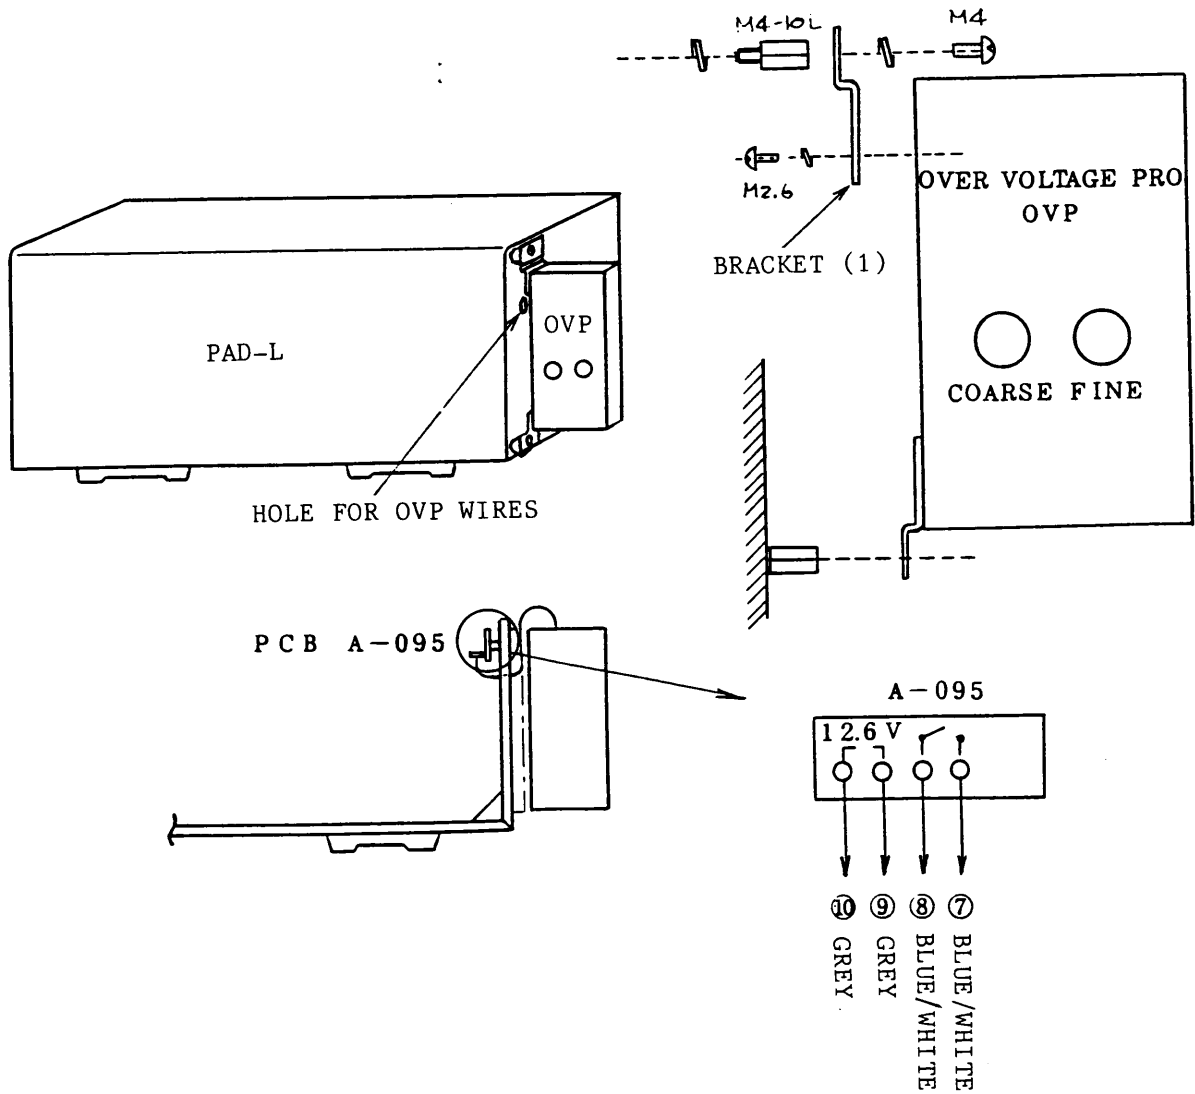

Figure 3
Accessories	Two brackets (1), Two brackets (2), Two M4-10L spacers. (See Figures 3 and 4.)
To install the OVP on a PAD-L, proceed as follows referring to Figure 3.